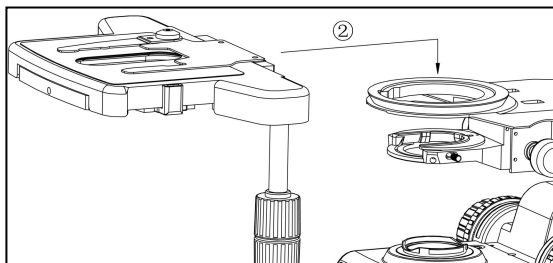
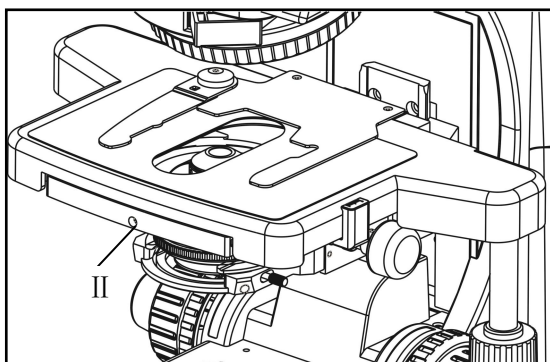

Fig 3
Fig 4
4-2-2 Install The Mechanical Object Stage(fig 3, fig 4)
- ✧ After placing the object stage steady, using the hex wrench screw the bolt, which shown as I in the figure 4, and the object stage will not waggle.